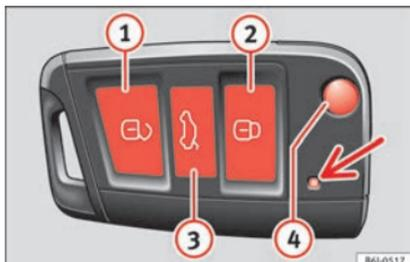

Fig. 131 Assignment of buttons on the remote control key.
By using button ④ » Fig. 131 on the control, the key shaft is released.
Unlocking the vehicle ① » Fig. 131 ①.
Locking the vehicle ② » Fig. 131 ②.
Unlocking the rear lid. Press button ③ » Fig. 131 ③ until all the turn signals on the vehicle flash briefly. When the unlocking button ③ ③ is pressed, you have 2 minutes to open the door. Once this time has passed, it will lock again.
Moreover, the battery indicator on the key » Fig. 131 (arrow), will flash.
- Press the  button  **Fig. 131** on the remote control.